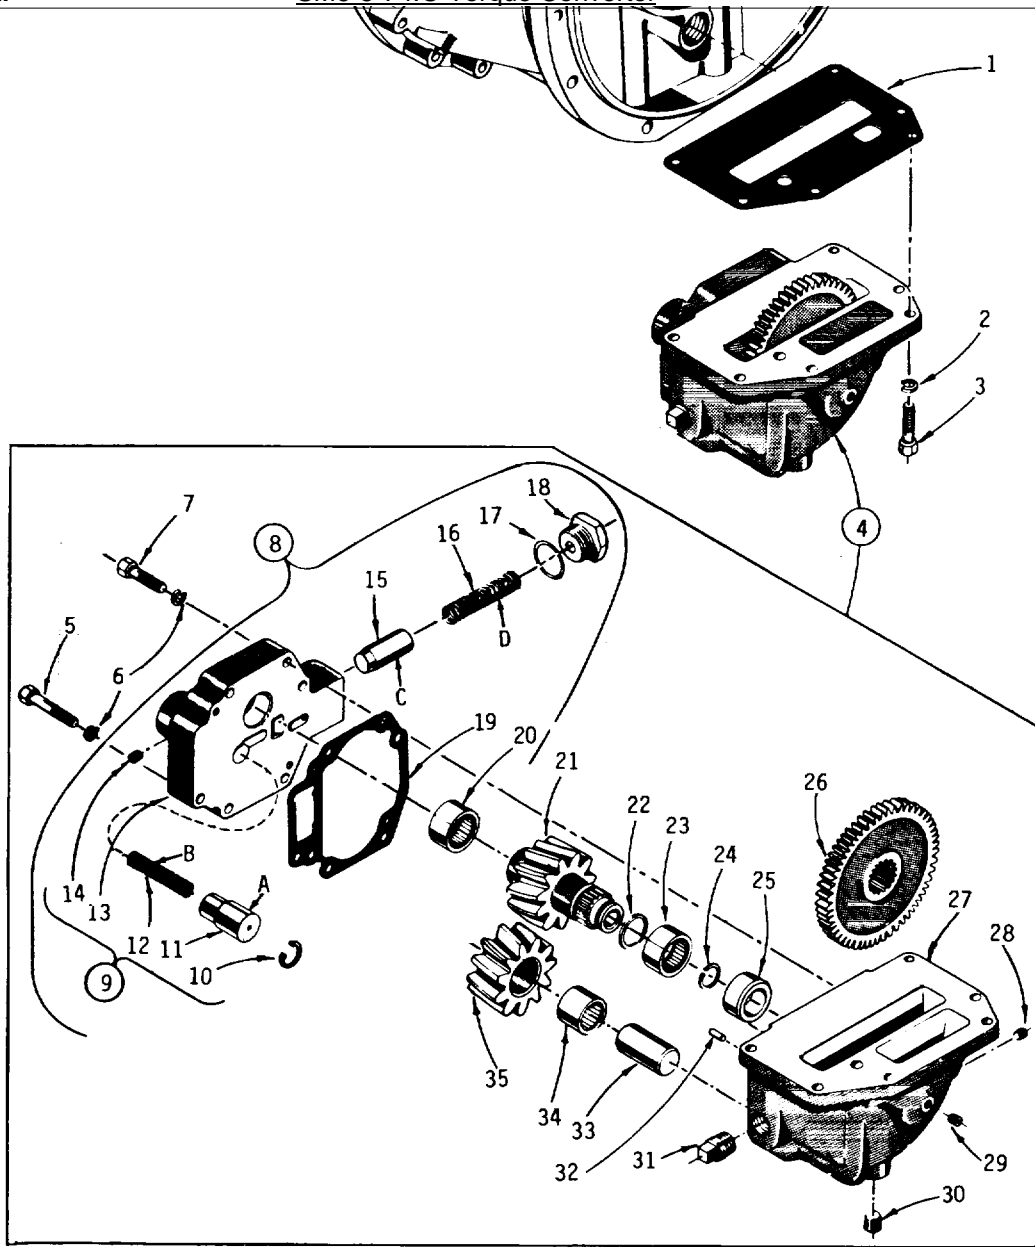
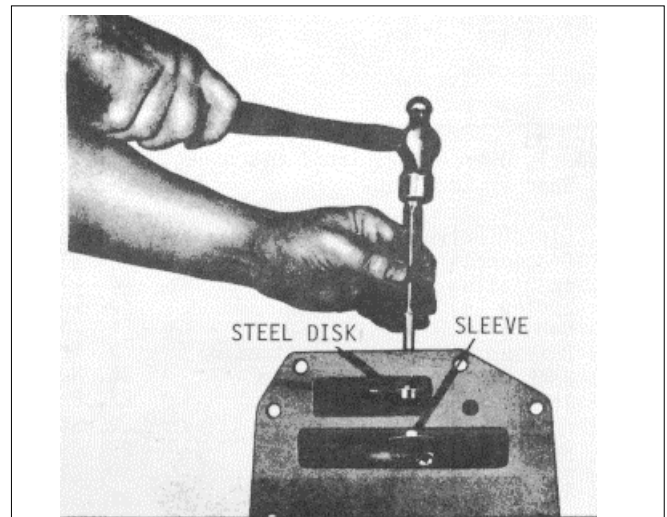

Fig. 26
Fig. 32
(1) Disassembly (Fig. 26)
- (j) Do not remove sleeve (25) (Fig. 26) from the oil pump body unless replacement is necessary. If necessary, drive the sleeve out of the pump body (Fig. 32). Use puller J 4852 (Fig. 1) or a steel disk 1/4 by 1.370 inch (6.35 x 34.798 mm) in diameter. Remove the pipe plug from the rear of the pump body. Place the disk in the slot behind the sleeve, aligning the disk with the sleeve. Insert a drift through the pipe plug hole in the rear of the pump body and place the drift against the disk. Press or drive the sleeve out of its bore.
- (k) Do not remove plugs (28), (29), (30), and (31) (Fig. 26) from body (27) unless replacement is necessary or for cleaning purposes. If necessary, remove the plugs.
(2) Cleaning, Inspection, Wear Limits. Refer to paragraph 74.4 for cleaning and inspection procedures, and to 74.28-34 for wear limits information.
(3) Assembly (Fig. 26)
- (b) If bearing assembly (23) (Fig. 26) and seal ring (22) were removed from oil pump body (27), install new replacements. Install the bearing, pressing against the numbered end of the bearing cage, flush to 0.090 to 0.100 inch (2.286 to 2.540 mm) below the edge of the bearing bore.
- (k) Install plugs (28), (29), (30) and (31) (Fig. 26).